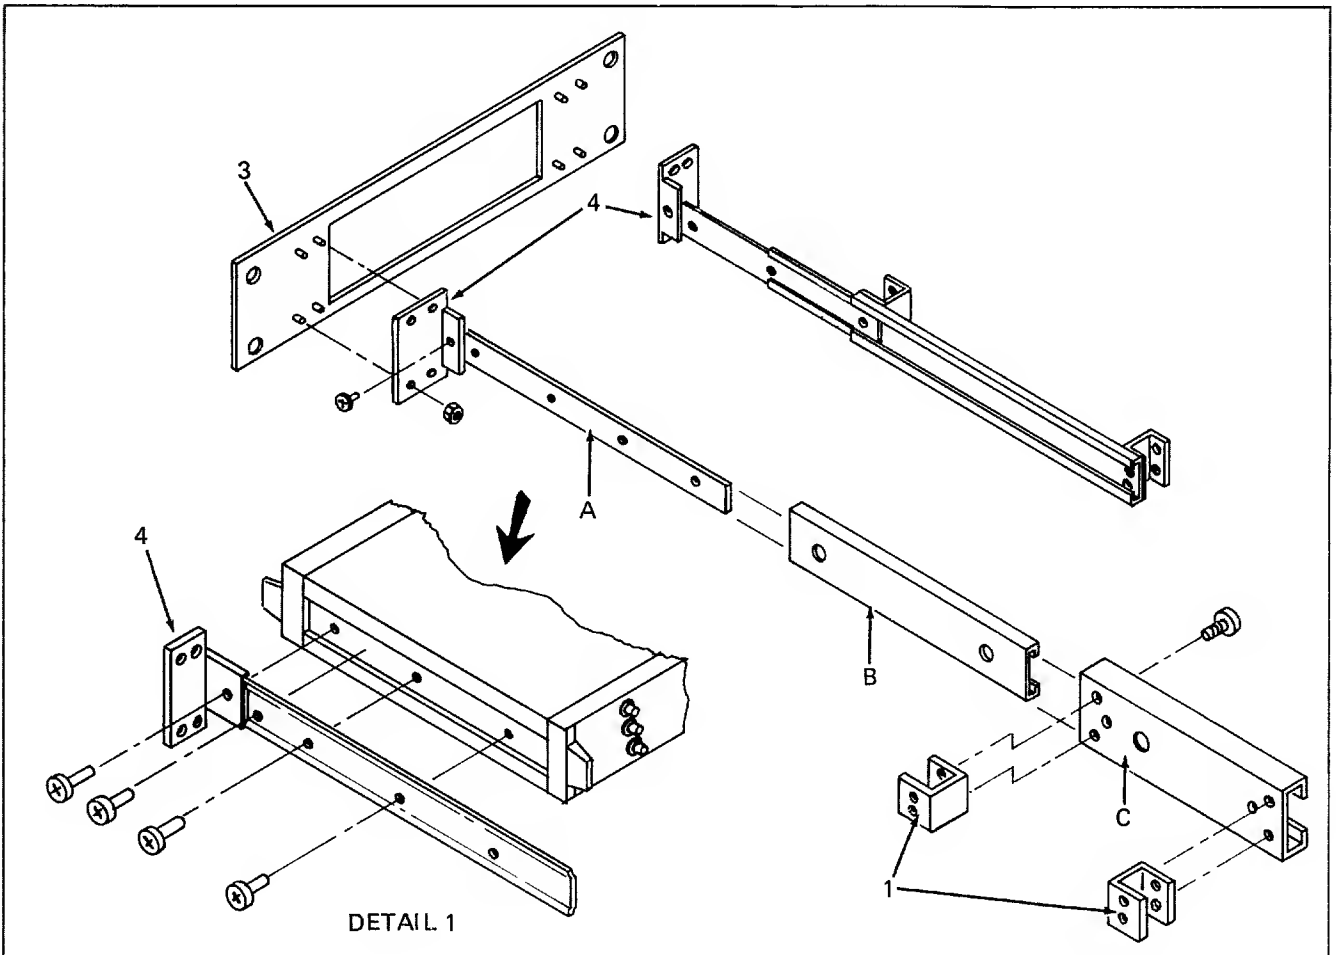

Figure 600-2. Rack Slide Kit
- c. Disassemble the rack slides into sections A, B, and C as shown in Figure 600-2. (Press release buttons.)
- d. Fasten the four mounting brackets (1) to the inside of the equipment rack (console).
- e. Anchor slide section C to the brackets (1) mounted in the console. Use eight 10-32 x 1/2" machine screws.
f. Fasten section A of the rack slide and the rack ear (4) to the side of the 1953A. Use eight 10-32 x 1/2" machine screws. See Detail 1 of Figure 600-2.
g. Attach front panel plate (3) to the rack ears (4) using eight 6-32 nuts.
h. Slide rack sections B into section C as shown in Figure 600-2.